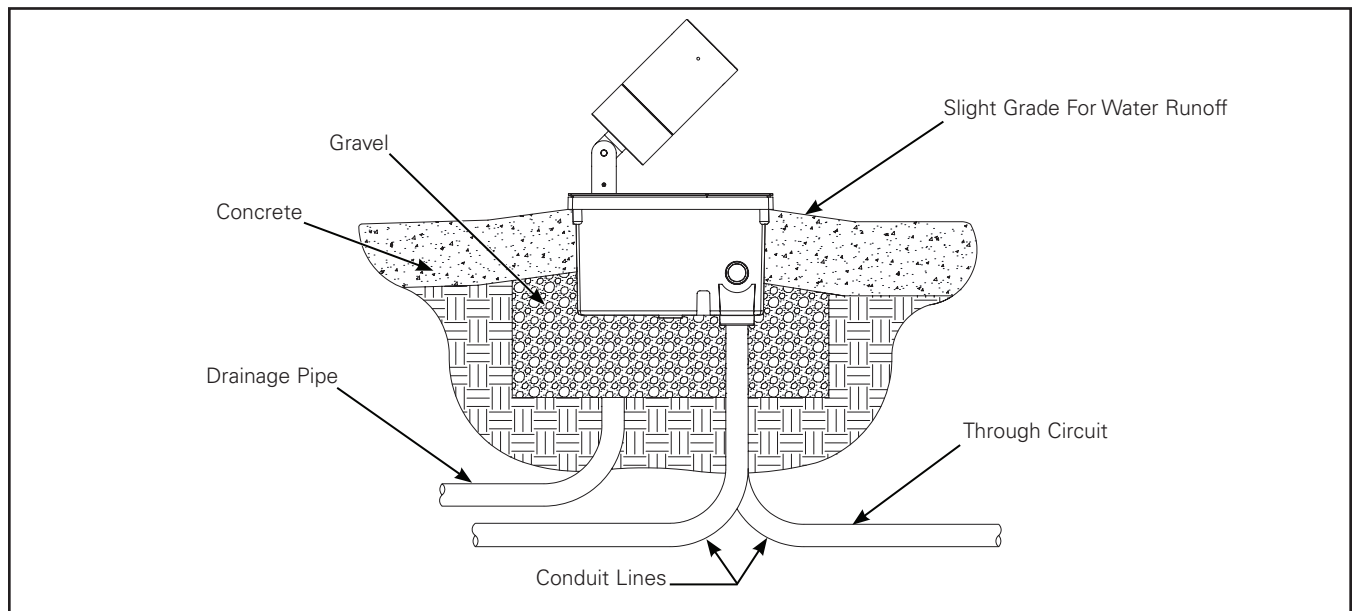

Figure 3.
4. Do not place in-ground container in low areas or other areas where water can accumulate and stand for long periods of time. (Figure 3.)